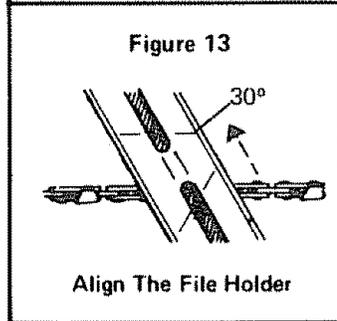

Figure 13
5. Align the file holder marks with the bar as shown in Figure 13. Using 30° mark on file holder.